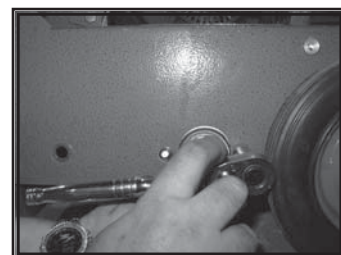

Fig.3: Remove rotor bearing kits
6. Remove and set aside bearing kits from either side of machine. (Fig.3)